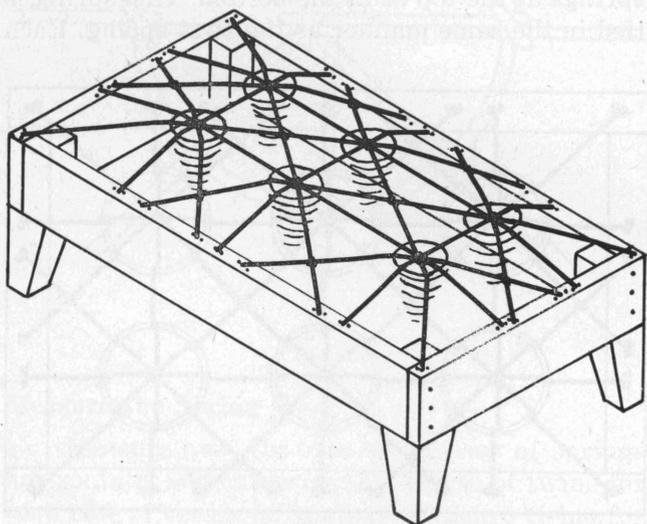

Fig. 13
*be crossed again.* When the tying is complete, the seat should present a slightly rounded appearance with every spring standing erect. (Fig. 13).